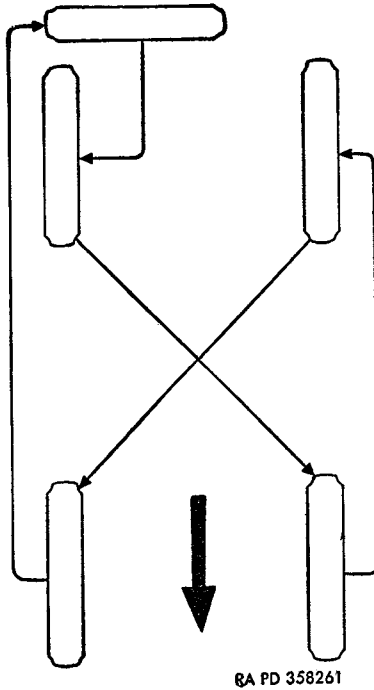

Figure 169. Tire rotation plan.
- (1) Replace any tire with noticeable cut on tread or side wall. Return old tire to ordnance maintenance unit for repair. If uneven wear is indicated, check toe-in adjustment (par. 224). If incorrect toe-in is not the cause, report to ordnance maintenance personnel.
- (2) Check pressures when tires are cold. Dismount any tire showing unusual pressure loss and examine tire tube for cause. Repair tire tube or replace tube or tire if necessary.
- (3) Inflate all tires to equal pressures, as unequal pressures will affect steering and braking adversely. Inflate tires to pressures designated in paragraph 248*b*. Under inflated tires are easily damaged. Install all valve caps to prevent air loss.
*c. Tire Rotation.* To maintain equal wear, rotate tires in accordance with the tire rotation plan shown in figure 169 at intervals of approximately 2,000 miles, if the tactical situation permits.